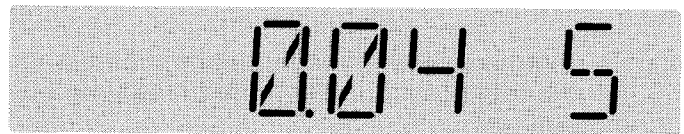

Figure 4-22 Typical Test Time in Seconds Display
- Step 9:** Once the desired magnitude of test current is displayed, use the **Select** and **Next** pushbuttons simultaneously to activate the test. The test will be performed as programmed and the test time in seconds will be displayed (Figure 4-22). Testing is now completed. It should be noted that the mimic time-current curve will appropriately indicate the test, the **Alarm LED** will be lit red, and the **Cause of the Trip LED** on the trip unit will be lit red.